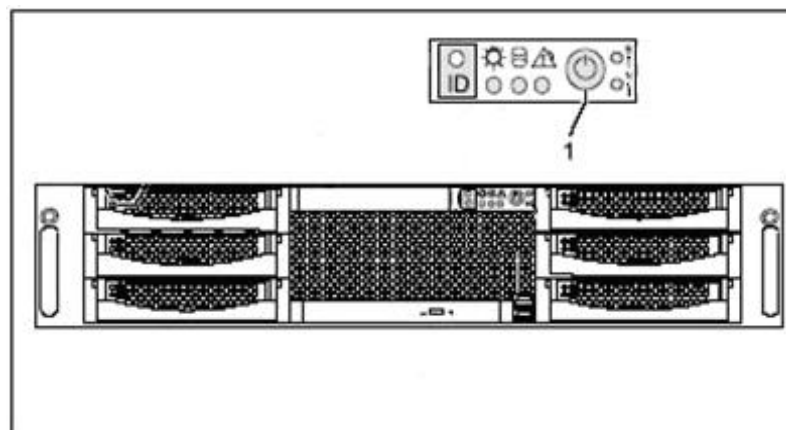

Fig. 20: Front of the ISIS
- Switch on ISIS by pressing the button (1) (see Fig. 20)
- Switch off the server by pressing the button (1) (see Fig. 20) for at least 3 seconds.
- Switch on the server again by pressing the button (1) (see Fig. 20)